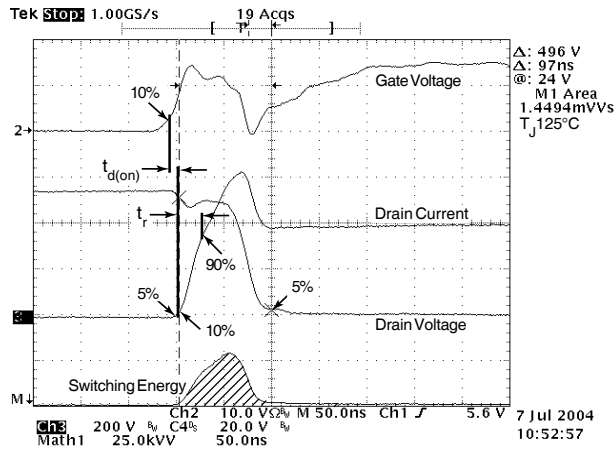

Figure 18, Turn-on Switching Waveforms and Definitions
① Repetitive Rating: Pulse width limited by maximum junction temperature
② Pulse Test: Pulse width < 380 μs , Duty Cycle < 2%
③ See MIL-STD-750 Method 3471
④ Starting $T_j = +25^\circ C, L = 4.16mH, R_G = 25\Omega, \text{Peak } I_L = 38A$
⑤ dv/dt numbers reflect the limitations of the test circuit rather than the device itself. $I_S \leq -I_D 38A, di/dt \leq 700A/\mu s, v_R \leq 800, T_j \leq 150^\circ C$
⑥ Eon includes diode reverse recovery. See figures 18, 20.